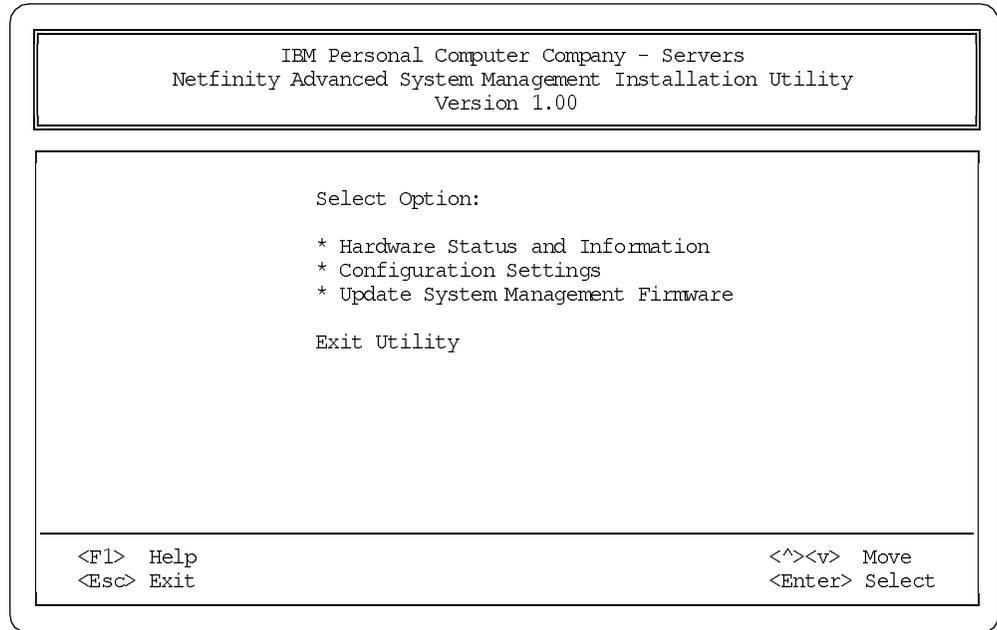

Figure 210. Main Menu Screen
1. Boot your server with the Advanced System Management Installation Utility diskette. Figure 210 appears: